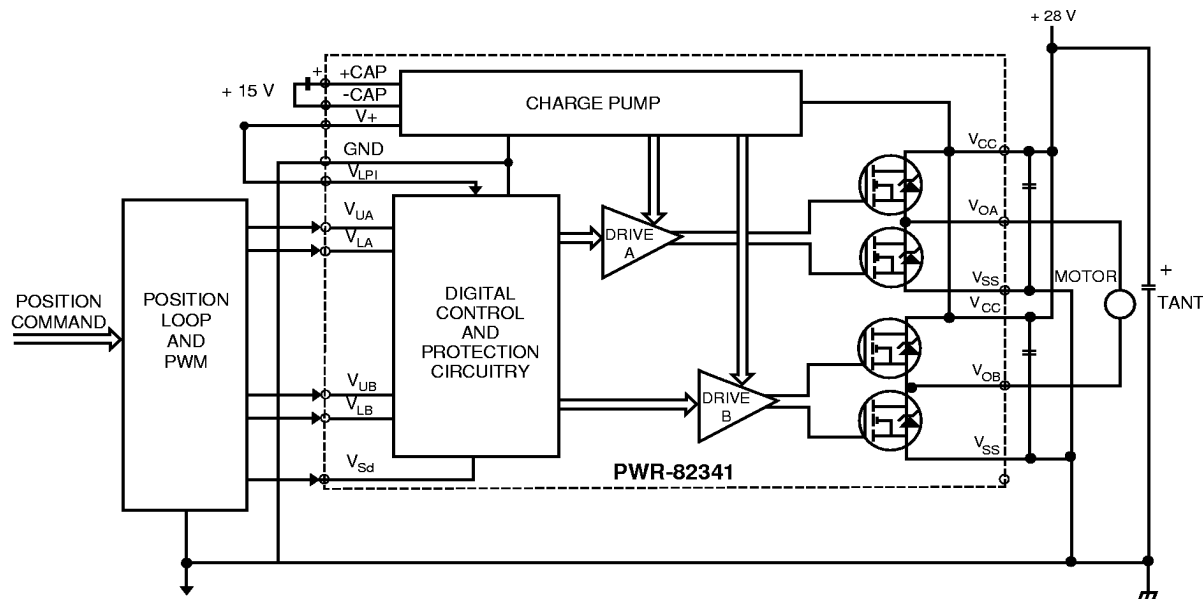

FIGURE 4. TYPICAL INTERFACE WITH A MOTOR AND PWM
The digital inputs have programmable logic levels, which allows the hybrid to be used with different types of control logic with an input voltage range of +5 to +15 V, such as TTL or CMOS logic. The V_{Lpi} pin is the logic power input for the digital circuitry inside the hybrid. **A 0.01 μF, 50 V ceramic capacitor must be placed between VLpi pin and GND as close to the hybrid as possible.** When using 5 V control circuitry, an external +5 Vdc power supply must be connected between the V_{Lpi} pin of the hybrid, and GND. The control circuitry can be as simple as a PWM, or as sophisticated as a microprocessor or custom ASIC, depending on the system requirements. FIGURE 4 illustrates a typical interface of the PWR-82341 with a motor and PWM in a Servo-Amp System.
The PWR-82341 has an internal charge pump circuit to generate the drive voltage for the high side N-channel MOSFETs (see Figure 4). The charge pump uses an oscillator to charge an external charge pump capacitor, Cc, from the Vcc supply. This oscillator will pump the voltage at the +cap pin (48) of the hybrid higher than Vcc. The hybrid high side drivers use this voltage to ensure proper gate drive.